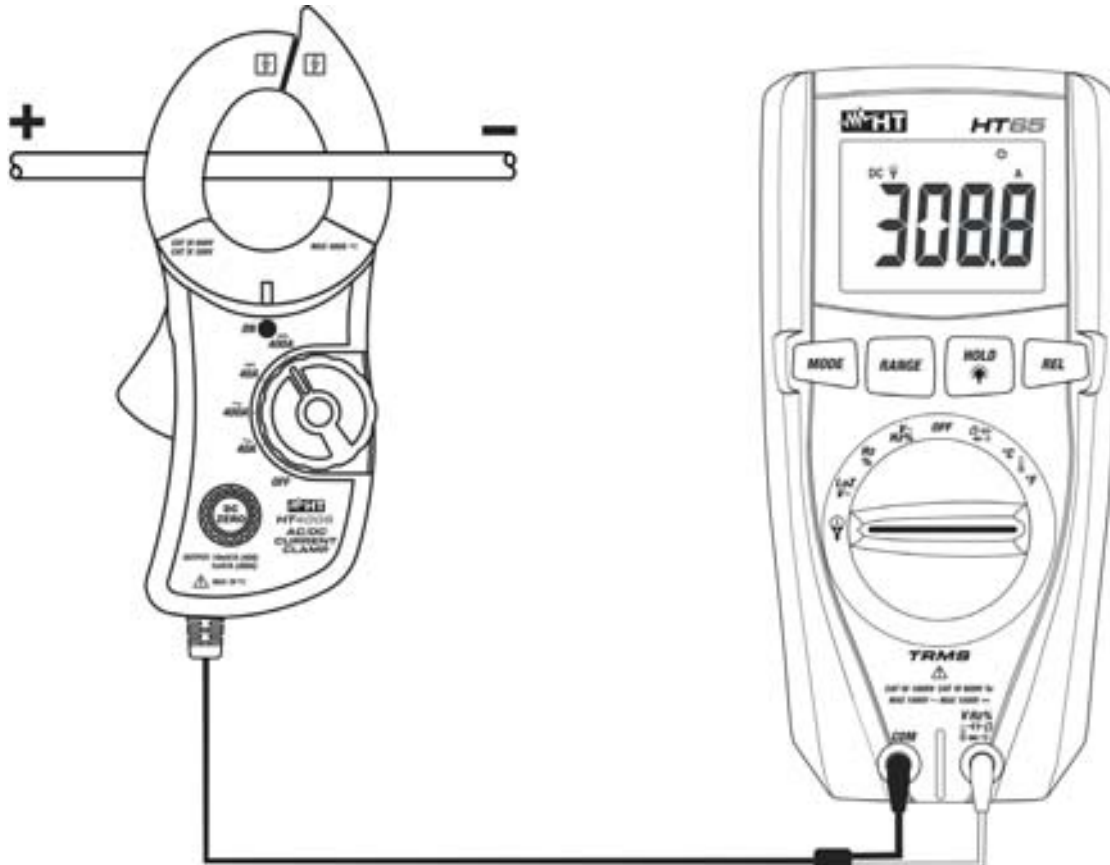

Fig. 10: Use of the instrument for DC current measurement with transducer clamps
5. Insert the cable inside the jaw (see Fig. 10). The value of current appears on the display
7. When symbol "**-**" appears on the instrument's display, it means that current has the opposite direction with respect to the connection in Fig. 10